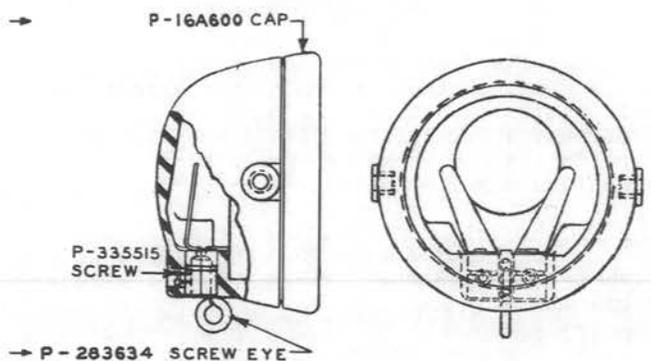

Fig. 2 - No. 12A Receiver Holder Assembly
2. To replace the P-335524 screw eye with the P-283634 screw eye (Fig. 2).